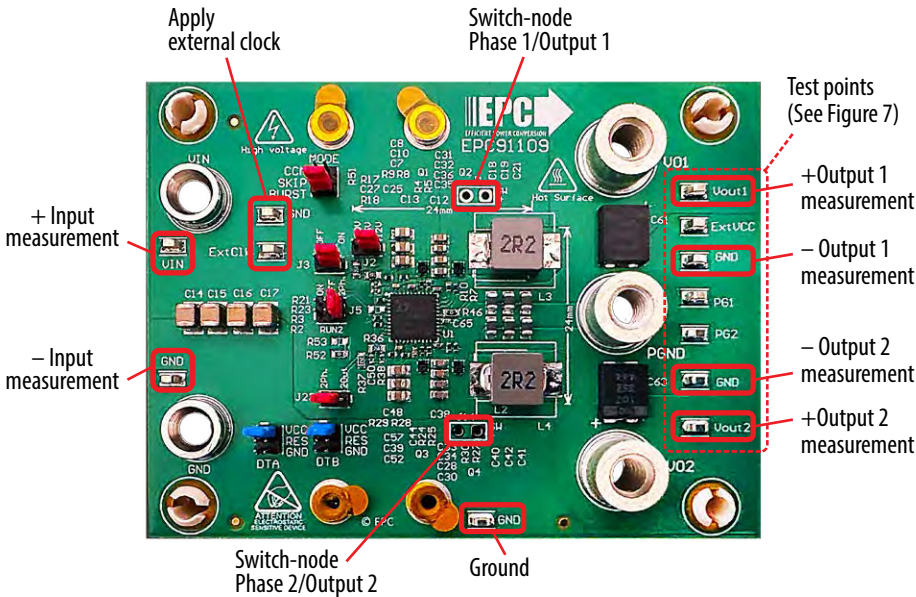

Figure 6: EPC91109 test point pad and hookup locations and designations
Figures 6 and 7 show the various measurement connections of the EPC91109 evaluation board.
5. With power off, connect the various measurement probes as shown in figures 6 and 7.